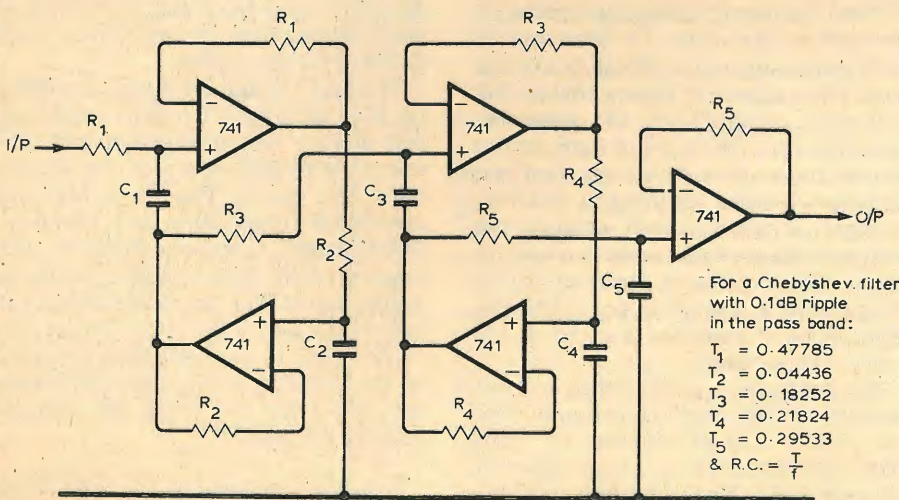

Fig. 7. Low-pass filter. Component values depend on application.
**Low-pass filter.** The circuit of a 5-element, Chebyshev, low-pass filter with 0.1 dB ripple in the pass band is shown in Fig. 7. Operational amplifiers, not emitter-followers, are used to buffer each element of the filter, because zero d.c. offset between input and output, with good temperature stability, is required. The overall voltage gain of the filter within the pass-band is unity. Values for the resistor/capacitor combinations are not given, but may be obtained for each element by referring to the appropriate time constant,  $T_n$ , and the formula,  $R_n C_n = T_n/f$ , where  $f$  is the required cut-off frequency at the 0.1 dB attenuation point. For good results, the  $R_n C_n$  combinations should be determined to within 1%.